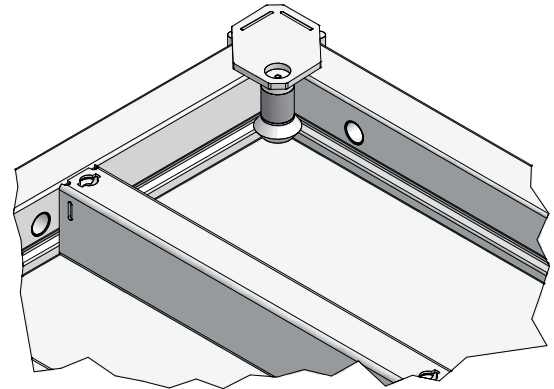
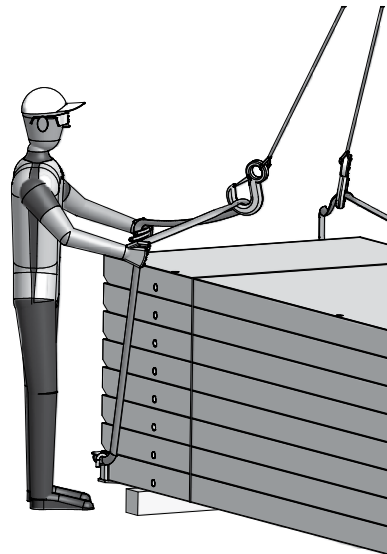

Fig. 72.4
Fig. 72.5
3. Yank the sling up (Fig. 72.5). The elastic fastening pin will engage completely in the profile groove and secure the stack against accidental uplift (Fig. 72.4).